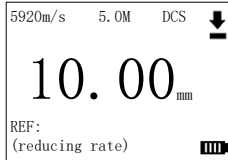

Fig. 4-4: Differential Measurement Interface
- **STEP 3:** Press **TEST** to return to the differential measuring interface (as shown in Figure 4-4), and the set reference value will be displayed at the top left of screen.